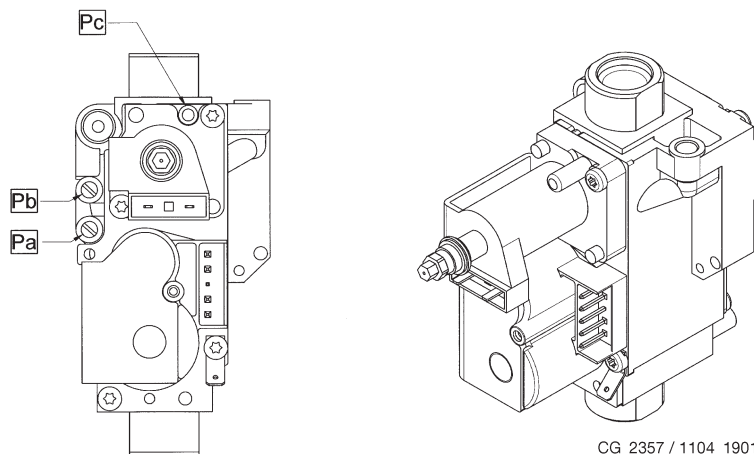

Figure 10
- connect the positive pressure test point of a differential pressure gauge (possibly water-operated) to the gas valve pressure test point (**Pb**) (Figure 10). Only for models with sealed chambers, connect the negative pressure test point of the pressure gauge to a "T" fitting in order to join the boiler adjustment outlet, the gas valve adjustment outlet (**Pc**) and the pressure gauge. (The same measurement can be made by connecting the pressure gauge to the pressure test point (**Pb**) after removing the front panel of the sealed chamber). Measuring burner pressure using methods other than those described could lead to incorrect results as the low pressure created by the fan in the sealed chamber would not be taken into account.
- make sure that the dynamic inlet pressure of the boiler, measured at the gas valve pressure test point (Pa) (Figure 10) is correct (37 mbar for propane or 20 mbar for natural gas).
- e) adjust the "Pmax/Pmin" screw (figure 10) to set the burner pressure value as described in table 1.
To adjust pressure at maximum power, turn the "Pmax" screw (fig. 10) clockwise to increase or anti-clockwise to decrease pressure at the burner.
To adjust pressure at minimum power, turn the "Pmin" screw (fig. 10) clockwise to increase or anti-clockwise to decrease pressure at the burner.